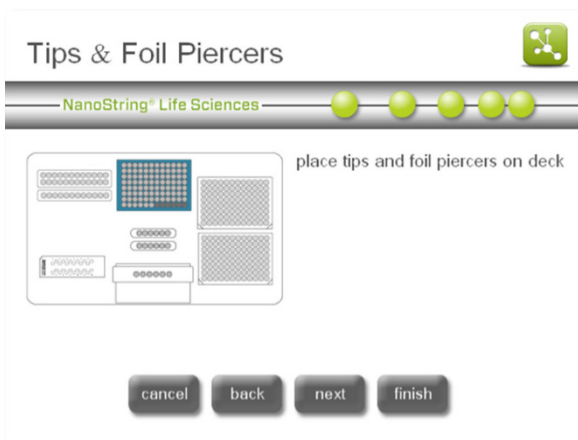
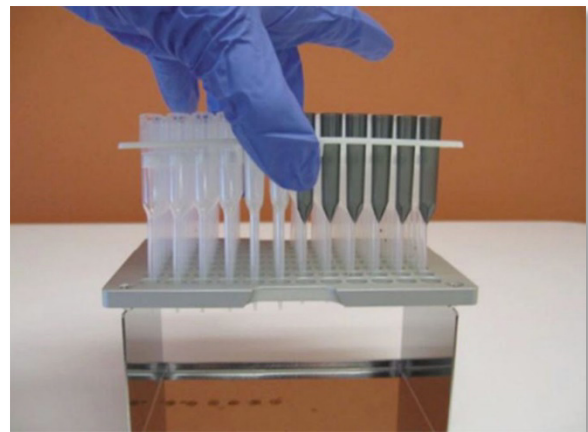

Figure 21: The 'Tips & Foil Piercers' screen.
Figure 22: Placing the tips and foil piercers into metal tip carrier.
- The 'Tips & Foil Piercers' screen will appear (**Figure 21**). Remove the metal tip carrier from the Prep Station deck by lifting straight up. Place the tips and the foil piercers into the carrier. It is helpful to place the carrier at eye level to align the plastic tips in the carrier as shown in **Figure 22**. The shorter, dark grey foil piercers should be in the front as shown.